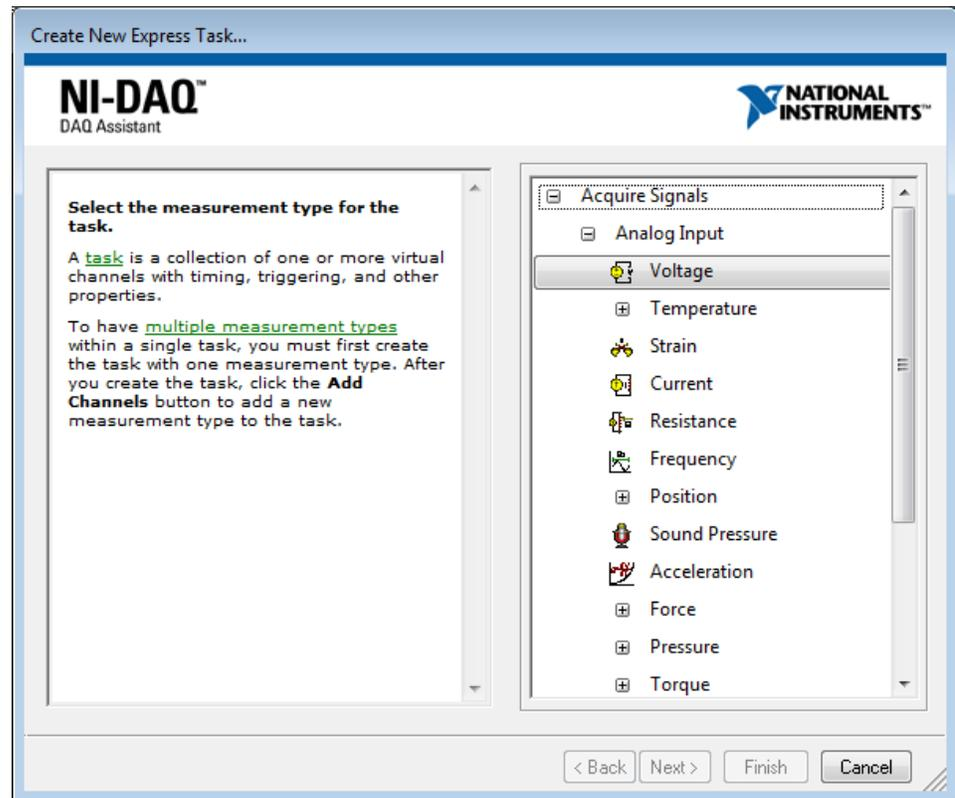

Figure 2. Define DAQ Measurement Type
- Click **Acquire Signals»Analog Input»Voltage** as shown in Figure 2.